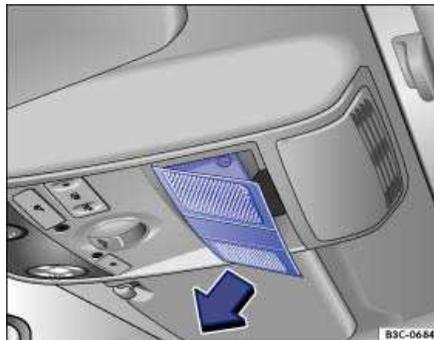

Fig. 180 In headliner: Removing cover.
1. Remove the cover in direction of the arrow ⇒ fig. 180.